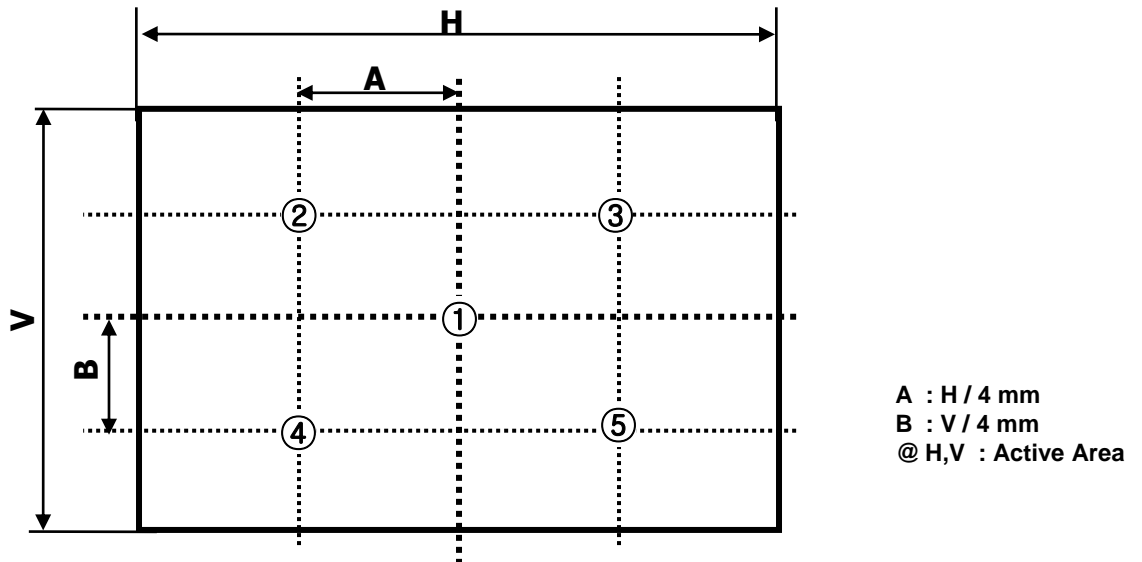

FIG. 2 5 Points for Luminance Measure
2. Surface luminance is determined after the unit has been 'ON' and 1 Hour after lighting the backlight in a dark environment at $25 \pm 2^{\circ}\text{C}$. Surface luminance is the luminance value at center 1-point across the LCD surface 50cm from the surface with all pixels displaying white. For more information see the FIG. 2.
For more information, see the FIG. 2.